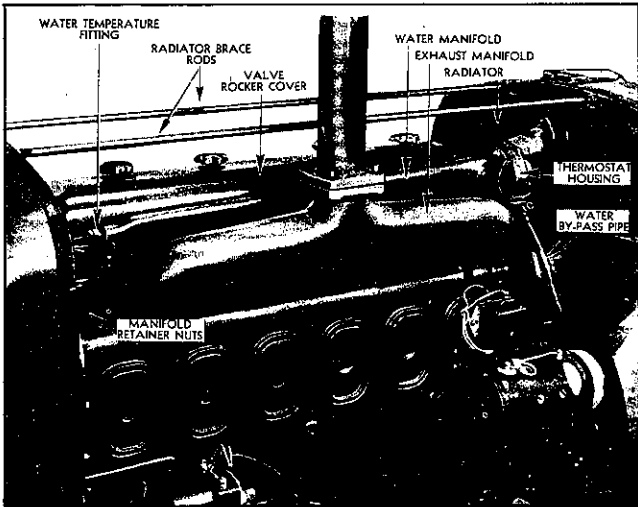

Fig. 4—Water and Exhaust Manifold Connections—Radiator Installation.
5. Remove two cap screws and separate water by-pass pipe from bottom of thermostat housing at front end of water manifold. (See Fig. 4.)